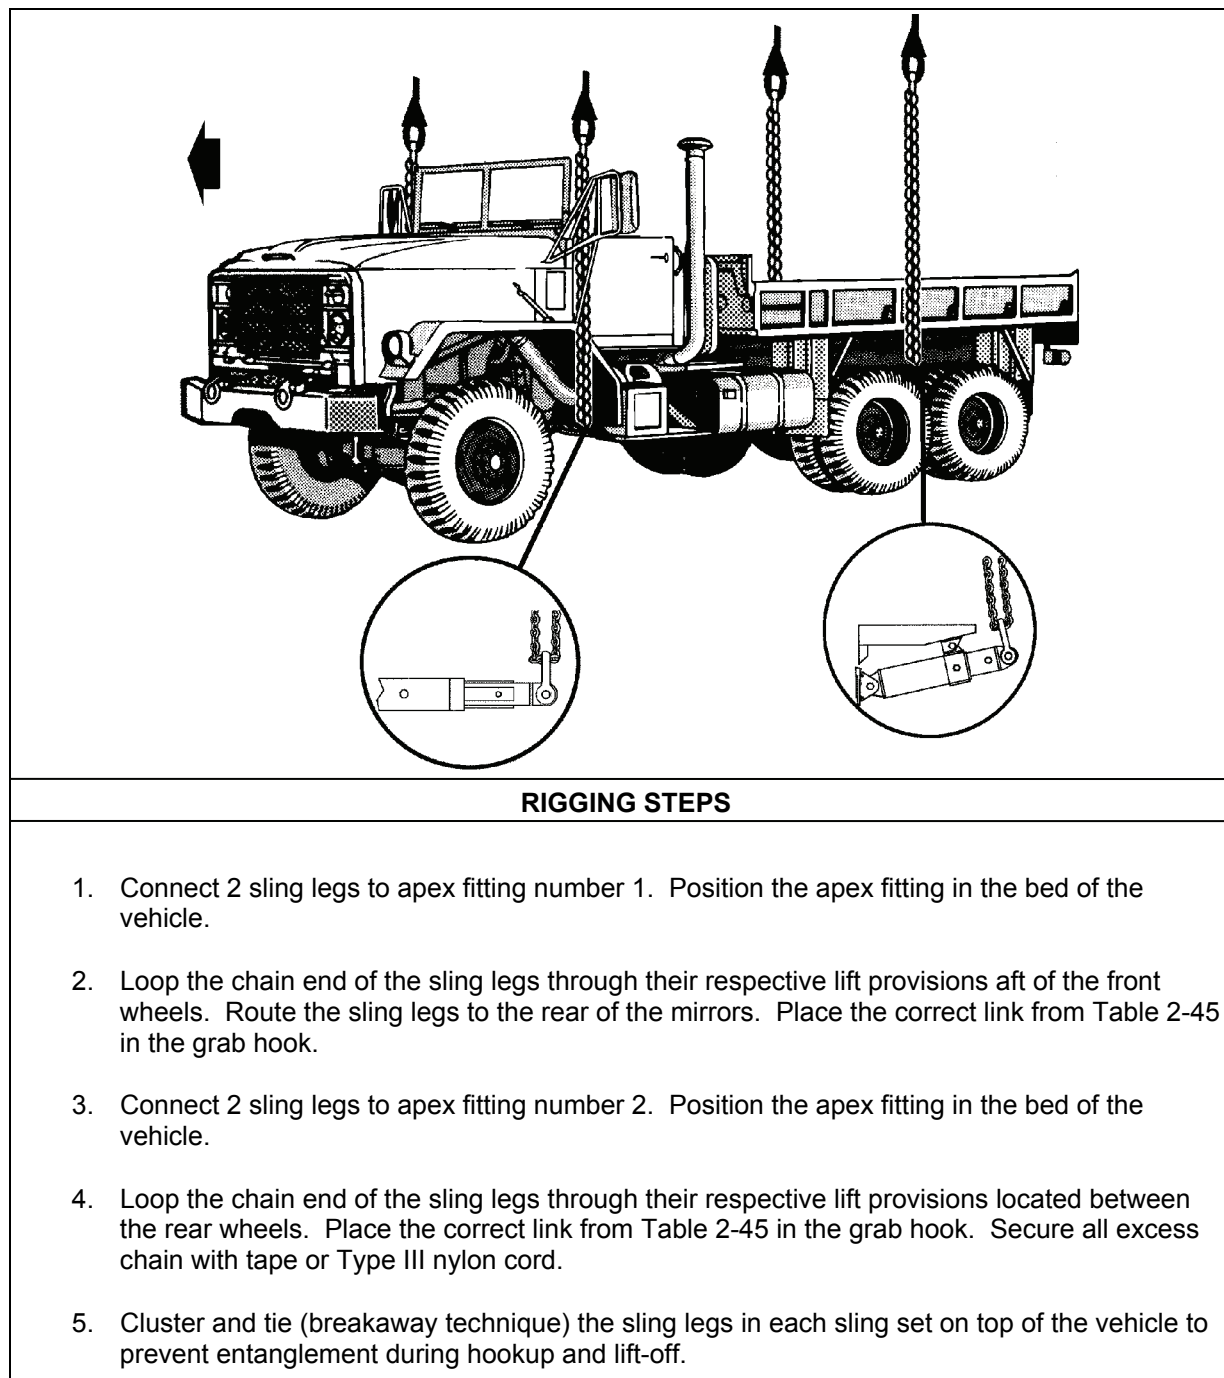

Figure 2-44. Truck, Cargo, 5-ton, M813A1/M923/M925
- **Rigging.** Rig the load according to the steps in Figure 2-44.